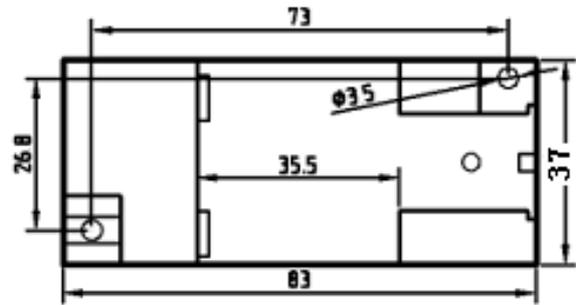

Figure 13 Mounting dimensions
- ① The transducer fixed on the side of the card slot and hook on the mounting rail;
- ② Pull the spring pin down;
- ③ Clip the transducer mount on the mounting rail;
- ④ Release the spring pin and clip the transmitter on the mounting rail.
- ① 4mm diameter hole in the fixed plate according to the position of the screw hole shown in Fig. 13;
- ② Use the screw $\Phi 3.5$ to insert into hole and secure it.